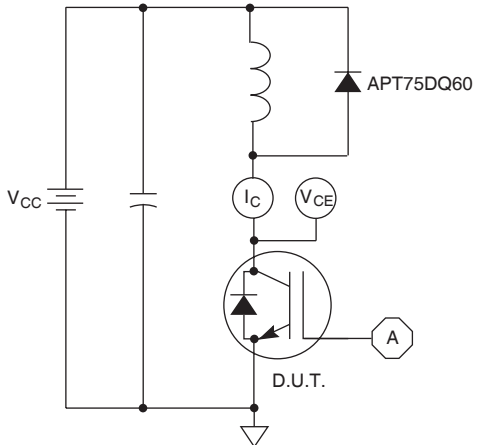

Figure 21, Inductive Switching Test Circuit
① Repetitive Rating: Pulse width limited by maximum junction temperature.
② For Combi devices,  $I_{ces}$  includes both IGBT and FRED leakages
③ See MIL-STD-750 Method 3471.
④  $E_{on1}$  is the clamped inductive turn-on energy of the IGBT only, without the effect of a commutating diode reverse recovery current adding to the IGBT turn-on loss. Tested in inductive switching test circuit shown in figure 21, but with a Silicon Carbide diode.
⑤  $E_{on2}$  is the clamped inductive turn-on energy that includes a commutating diode reverse recovery current in the IGBT turn-on switching loss. (See Figures 21, 22.)
⑥  $E_{off}$  is the clamped inductive turn-off energy measured in accordance with JEDEC standard JESD24-1. (See Figures 21, 23.)
⑦  $R_G$  is external gate resistance, not including  $R_{G(int)}$  nor gate driver impedance. (MIC4452)
⑧ Continuous current limited by package lead temperature to 100A.